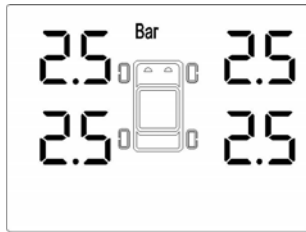

Fig 10
- ① Starting status as shown in figure 10;
- ⑤ Finally press “SET” again, the tyre interchange is done. Then the display interface returns to starting status as shown in figure 10.